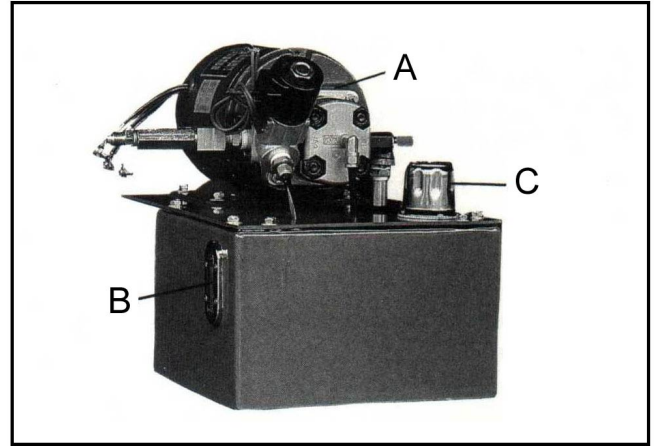

Fig. 18
The hydraulic system controls saw arm descending. If the magnetic valve (A, Fig. 18) contains sediment, the saw arm may not go down regularly. To solve the problem is to keep the inside net filter clean.
2. Open oil inlet (C, Fig. 18) and fill oil (Mobil 1405 or Hydran LG 10) until level reaches the read in middle of oil gauge (B, Fig. 18)